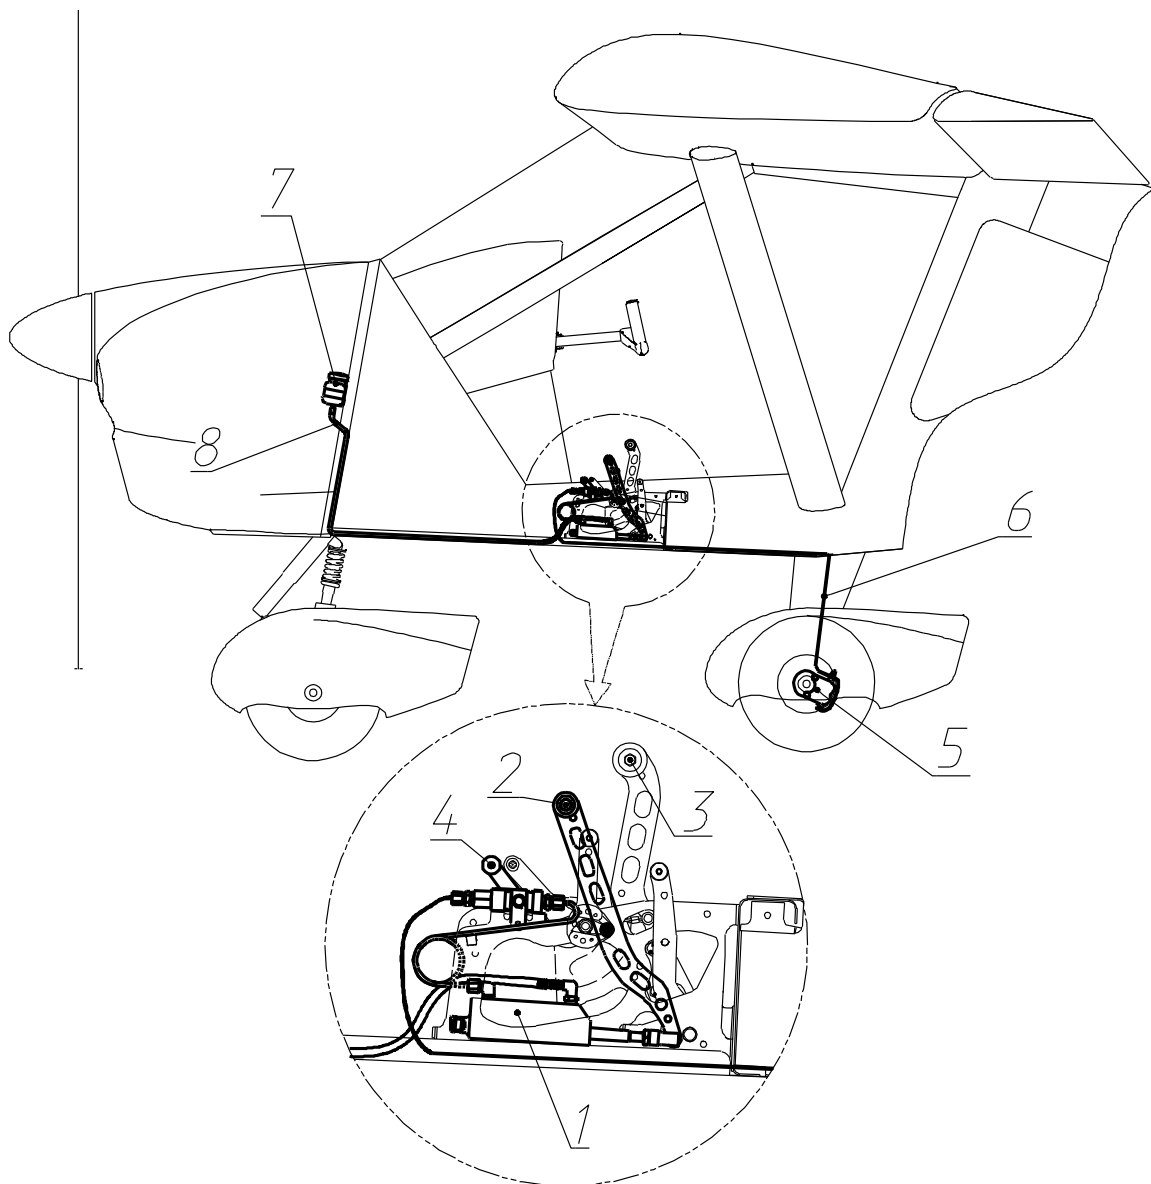

Fig. 11. Brake control system
The main wheel brakes (**Fig. 11**) are actuated hydraulically using the brake lever (2) (installed next to the throttle lever 3) controlling the pressure supplied from the master cylinder (1) to the slave cylinders (5) in the wheels.